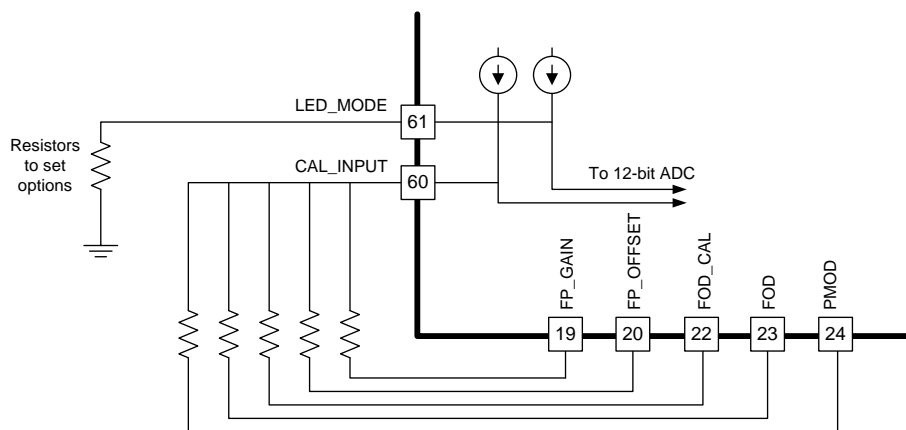

Figure 5. Pin Connections for CAL_INPUT and LED_MODE
- Pins 19, 20, 22, 23, and 24 are used to sequentially bias the five programming resistors shown in Figure 5.